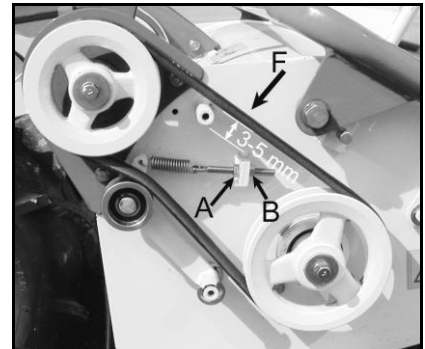

Figure 23
- Push the belt with a finger on (F, Figure 23) the belt must move from 3 to 5 mm. If the belt does not move accordingly, adjust with screws A & B.